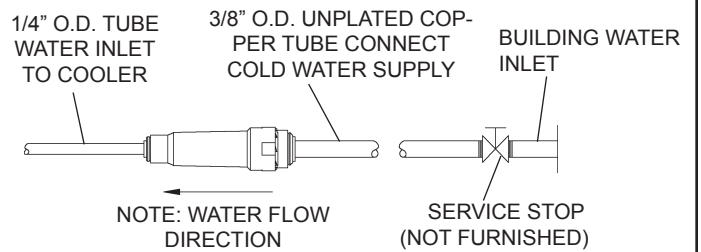

Figure 11 - Water Supply Connections
1. **Make water supply connections** (Fig 11). Install a shut-off valve and union connection to building water supply (valve and union not provided). Turn on water supply and flush the line thoroughly.